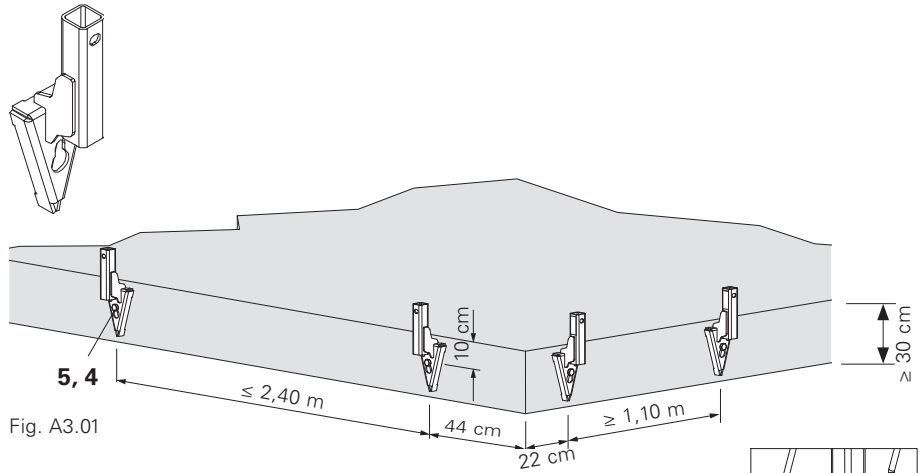

Fig. A3.01
1. Fix the Side Foot PSF (5) by means of PERI Anchor Bolts 14 x 150 (4).
2. Insert the Post PP (2) into the Side Foot PSF. The securing hooks (2.1) click into place and are then secured. (Fig. A3.01)